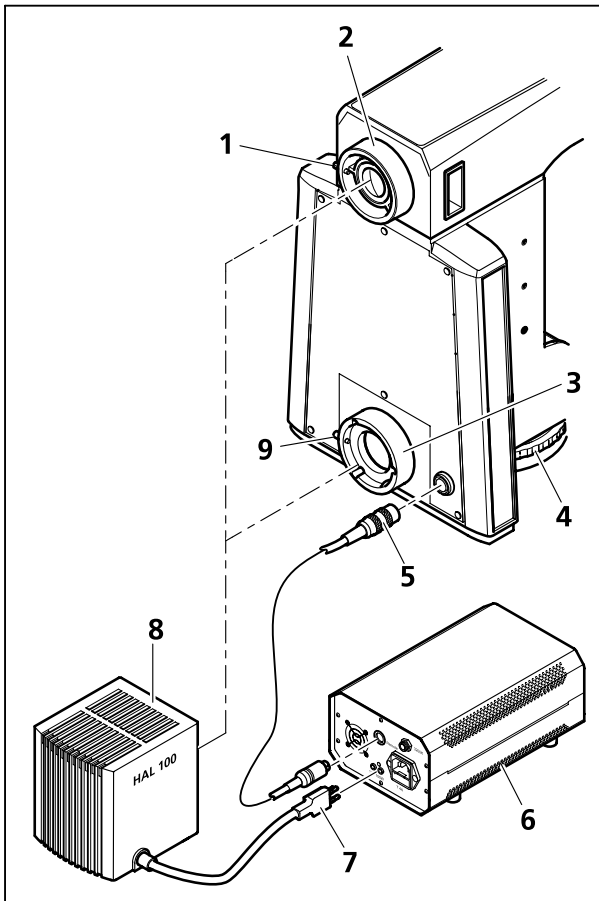
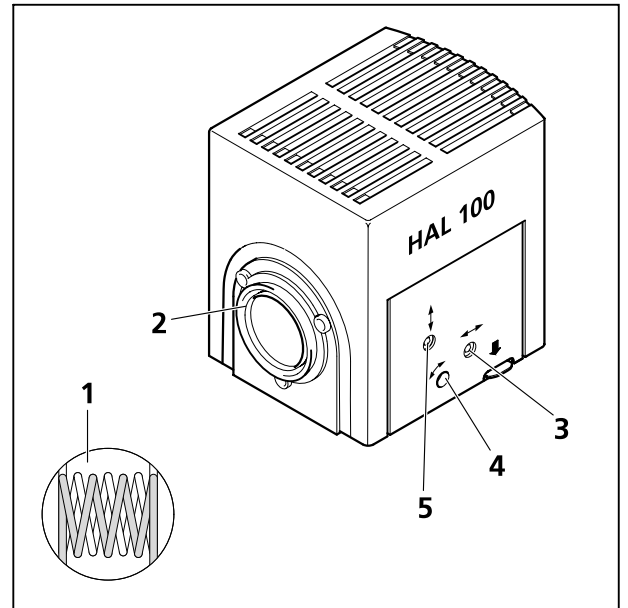

Fig. 3-23 Mounting the halogen lamp HAL 100
Fig. 3-24 Adjusting a halogen lamp HAL 100
- Insert the lamp case (Fig. 3-23/8) with the dovetail ring into the connector (Fig. 3-23/2 and Fig. 3-23/3). Now fixate it by tightening the clamping screw (Fig. 3-23/1 or Fig. 3-23/9) with the ball head screwdriver SW 3.
- Insert the 3-pin lamp plug (Fig. 3-23/7) into the back of the external power supply (Fig. 3-23/6).
When mounting HAL 100 to the lower stand part for HAL 100 illumination, it is necessary to use an additional control cord (Fig. 3-23/5) for the light intensity (see chapter 3.2.2). The light intensity of HAL 100 can then be adjusted with the control wheel (Fig. 3-23/4).
- After loosening the clamping screw (Fig. 3-23/1 or Fig. 3-23/7), remove the ready-to-operate halogen lamp (Fig. 3-24/2) from the microscope stand.
- Adjust the adjustment screw (Fig. 3-24/3) with a ball head screwdriver SW 3 until both images of the lamp filament appear as sharp as possible on the projection surface.
- Adjust the adjustment screws (Fig. 3-24/4 and 5) so that the lamp filament of one image exactly fills the gaps of the reflected image (Fig. 3-24/1).
- Remove the eyepiece and center the lamp filament and its reflection in the eye pupil image with the adjustment screws (Fig. 3-24/4 and 5).
- Optimize the even illumination of the pupil image with the adjustment screws (Fig. 3-24/3).